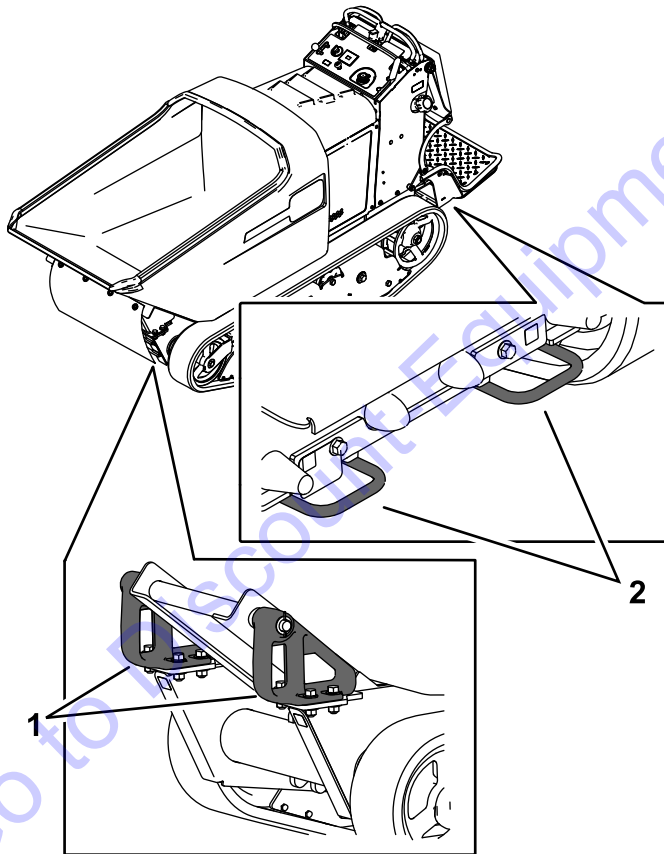

Figure 16
6. Use the metal tie-down loops on the machine to securely fasten the machine to the trailer or truck with straps, chains, cable, or ropes (Figure 16).